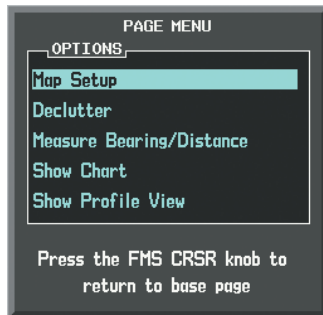

Figure 6-113 Navigation Map Page Menu
- 3) With Map Setup highlighted, press the **ENT** Key (Figure 6-113).